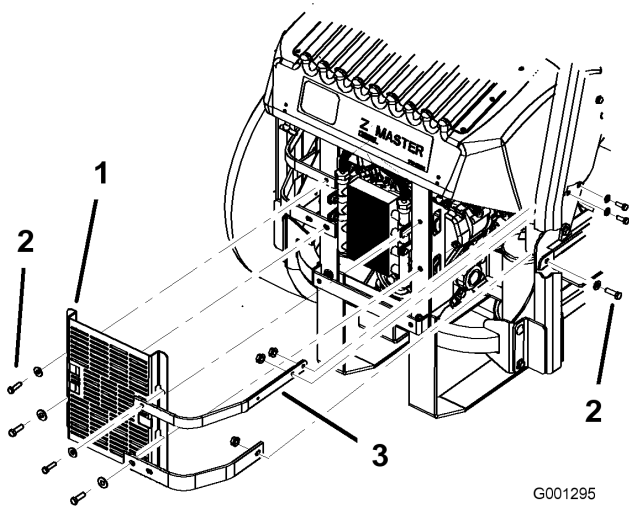

Figure 56
3. Remove the 4 bolts holding the oil cooler shield to the rear frame (Figure 56).
4. Remove the 3 bolts holding the engine straps to the side of the machine (Figure 56).
- Install the oil cooler shield and engine straps to the rear frame with the 4 bolts previously removed (Figure 56).
- Install the engine straps to the side of the machine (Figure 56).